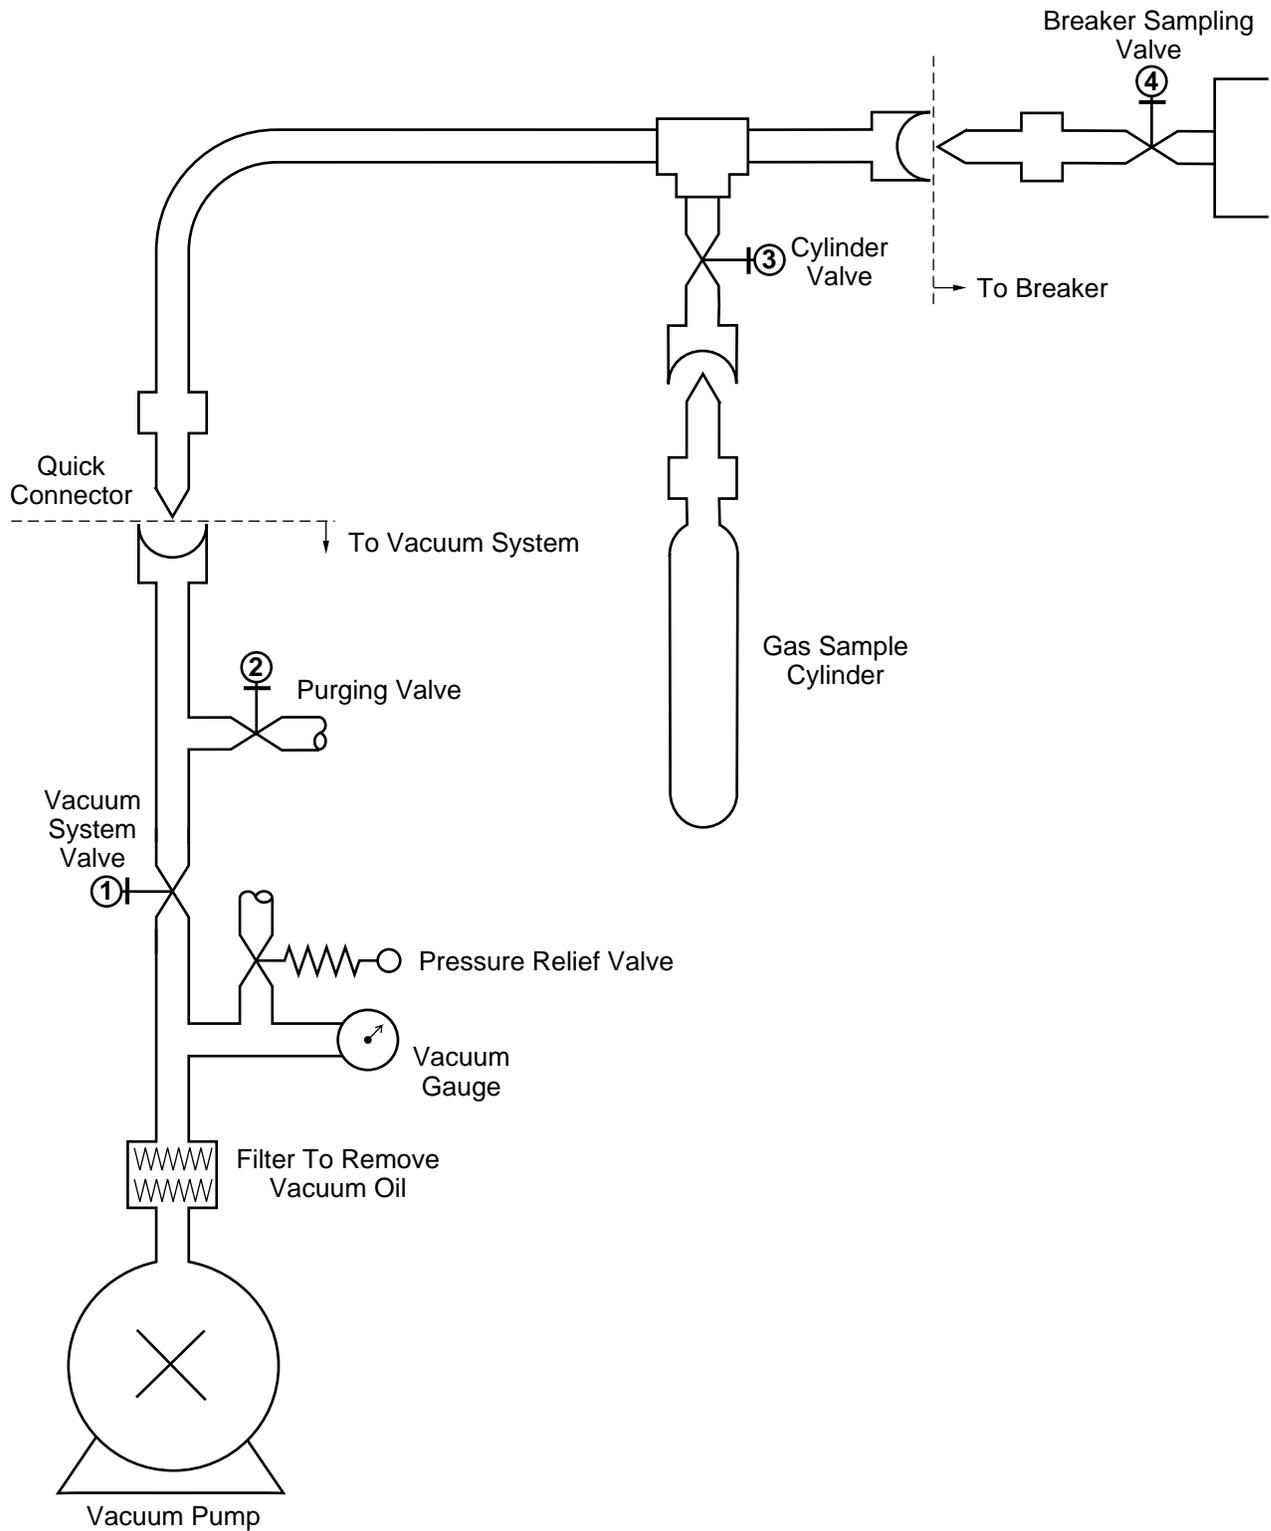

Figure C.1
To assure the validity of the SF₆ gas sample, it is important that the proper steps be followed when collecting the samples. Using the suggested procedure below in conjunction with taking the proper precautions during the sampling operations will enhance the quality of the gas samples. Refer to figure C.1 for the identification and position of the valves mentioned in the procedure.
2. Make the equipment connections shown in figure C.1 and verify that the connections are tightened.